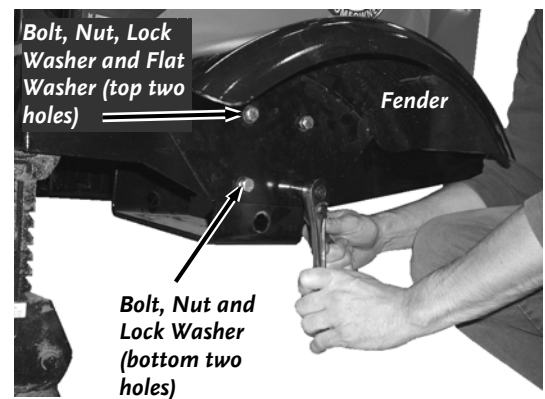

Figure 58
8. Position the Fender and reinstall the four Bolts, Lock Washers and Nuts (two large washers on top two holes only) to the side of the chipper Frame (**Figure 58**).